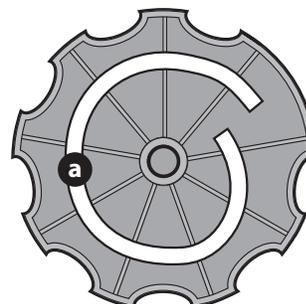

Figure 14
9. Then align the spiral (a) on the inside of the recliner knob with the recliner pin. Make sure the hub on the back of the recliner sits properly into the large holes of the side plate (Figure 14).